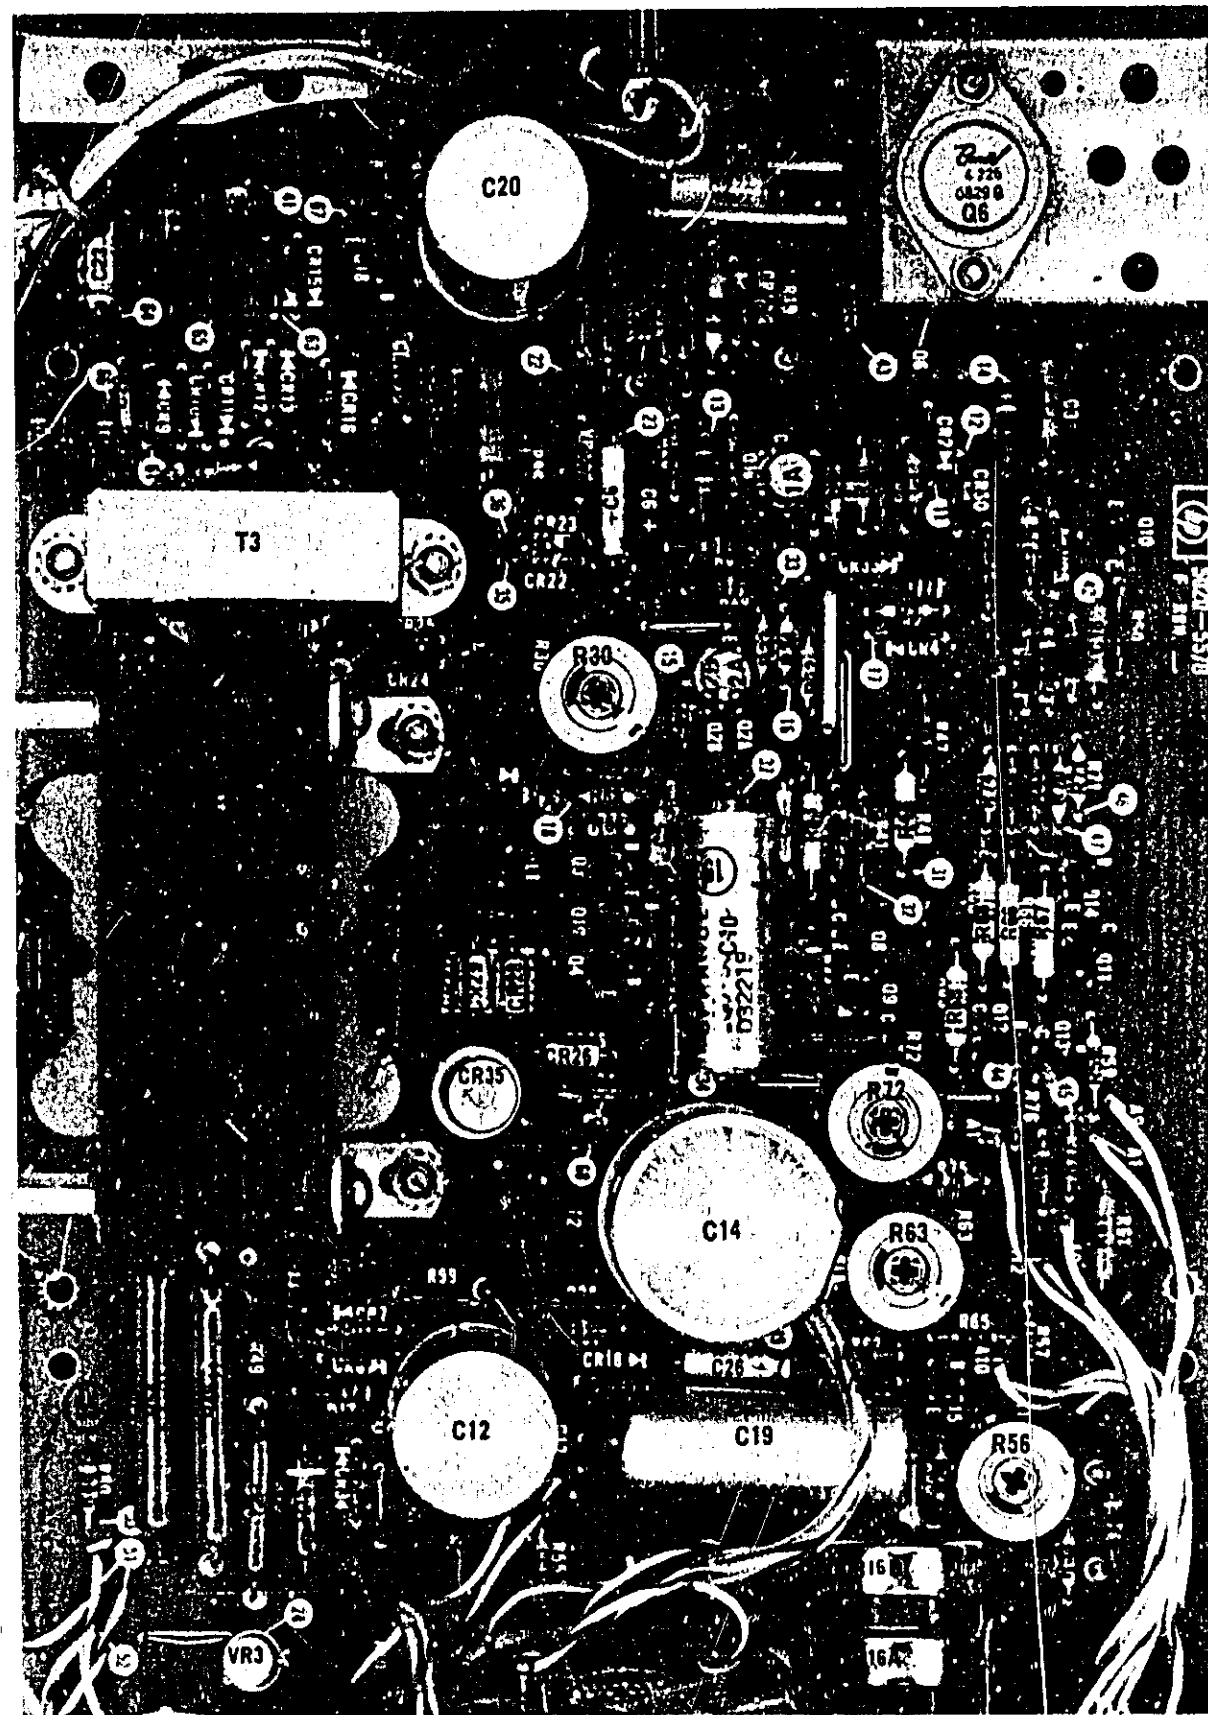

Figure 7-1. Component Location
a. Component Location Diagram, Figure 7-1, which shows the physical location and reference designator of parts mounted on the printed